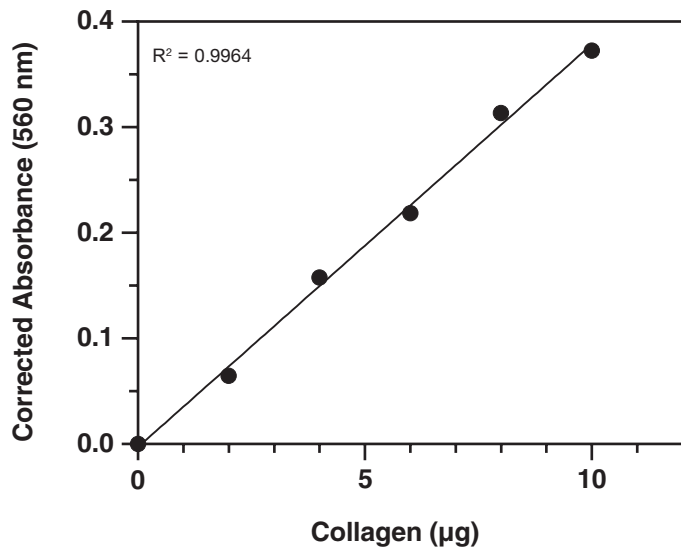

Figure 4. Collagen Standard Curve
2. Subtract the absorbance value of the zero standard from itself and all other standards and samples. This is the corrected signal (CS).
3. Plot the CS values (from step 2 above) of each standard as a function of the final amount of collagen or hydroxyproline from Table 1, page 14. See Figures 4 and 5, on pages 18 and 19, for typical standard curves.